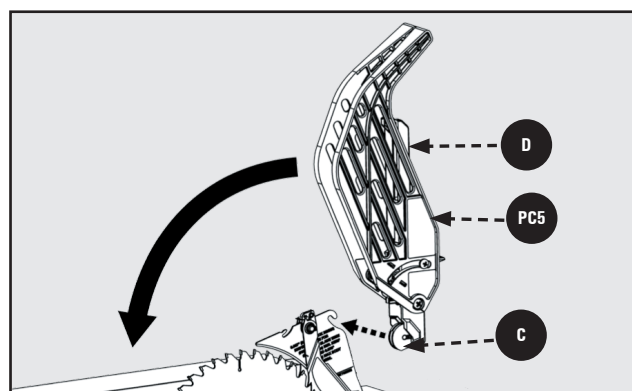

FIGURE 14
1. Before installing the Blade Guard Assembly, make sure the riving knife is raised to the thru-cut position. While holding the Blade Guard Assembly **PC5** in a vertical position, hook the Locating Pin **C** at the back end of the Blade Guard Assembly into the slot at the back edge of the Riving Knife. See Figure 14.